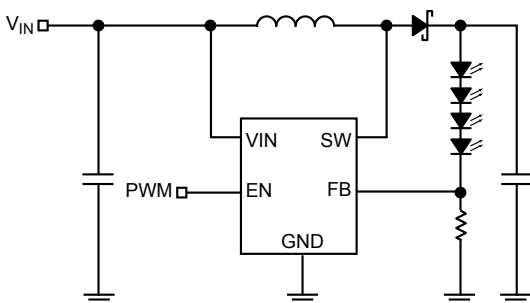

Figure 1. PWM Dimming Method
1. PWM dimming control is implemented by applying a PWM signal to the EN pin, as shown in Figure 1. The MIC3287 is turned on and off by the PWM signal. With this method, the LEDs operate with either zero or full current. The average LED current is increased proportionally to the duty-cycle of the PWM signal. This technique has high-efficiency because the IC and the LEDs consume no current during the off time of the PWM signal. Typical PWM frequency should be between 100Hz and 10kHz.